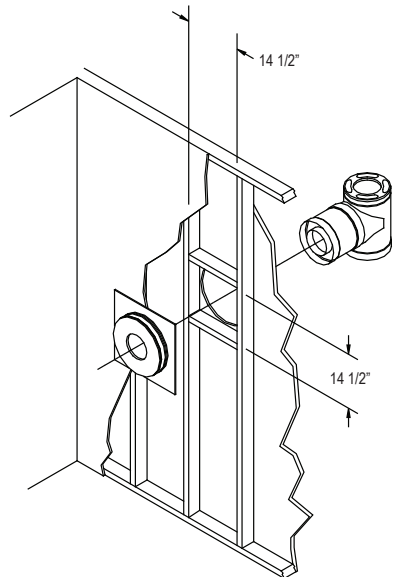

Figure 25
2. Cut and Frame Opening: Cut 14-1/4 inch diameter holes in the inner and outer walls. The center of these holes should be aligned with the center of the stove's flue outlet collar. For new construction, prior to sheetrock or other covering of the wall studs is applied, frame a square opening between the studs, as specified in Table 2. (*Figure 25*). Should it be necessary to go through concrete, masonry, or cinder-block, a 14-1/4 inch